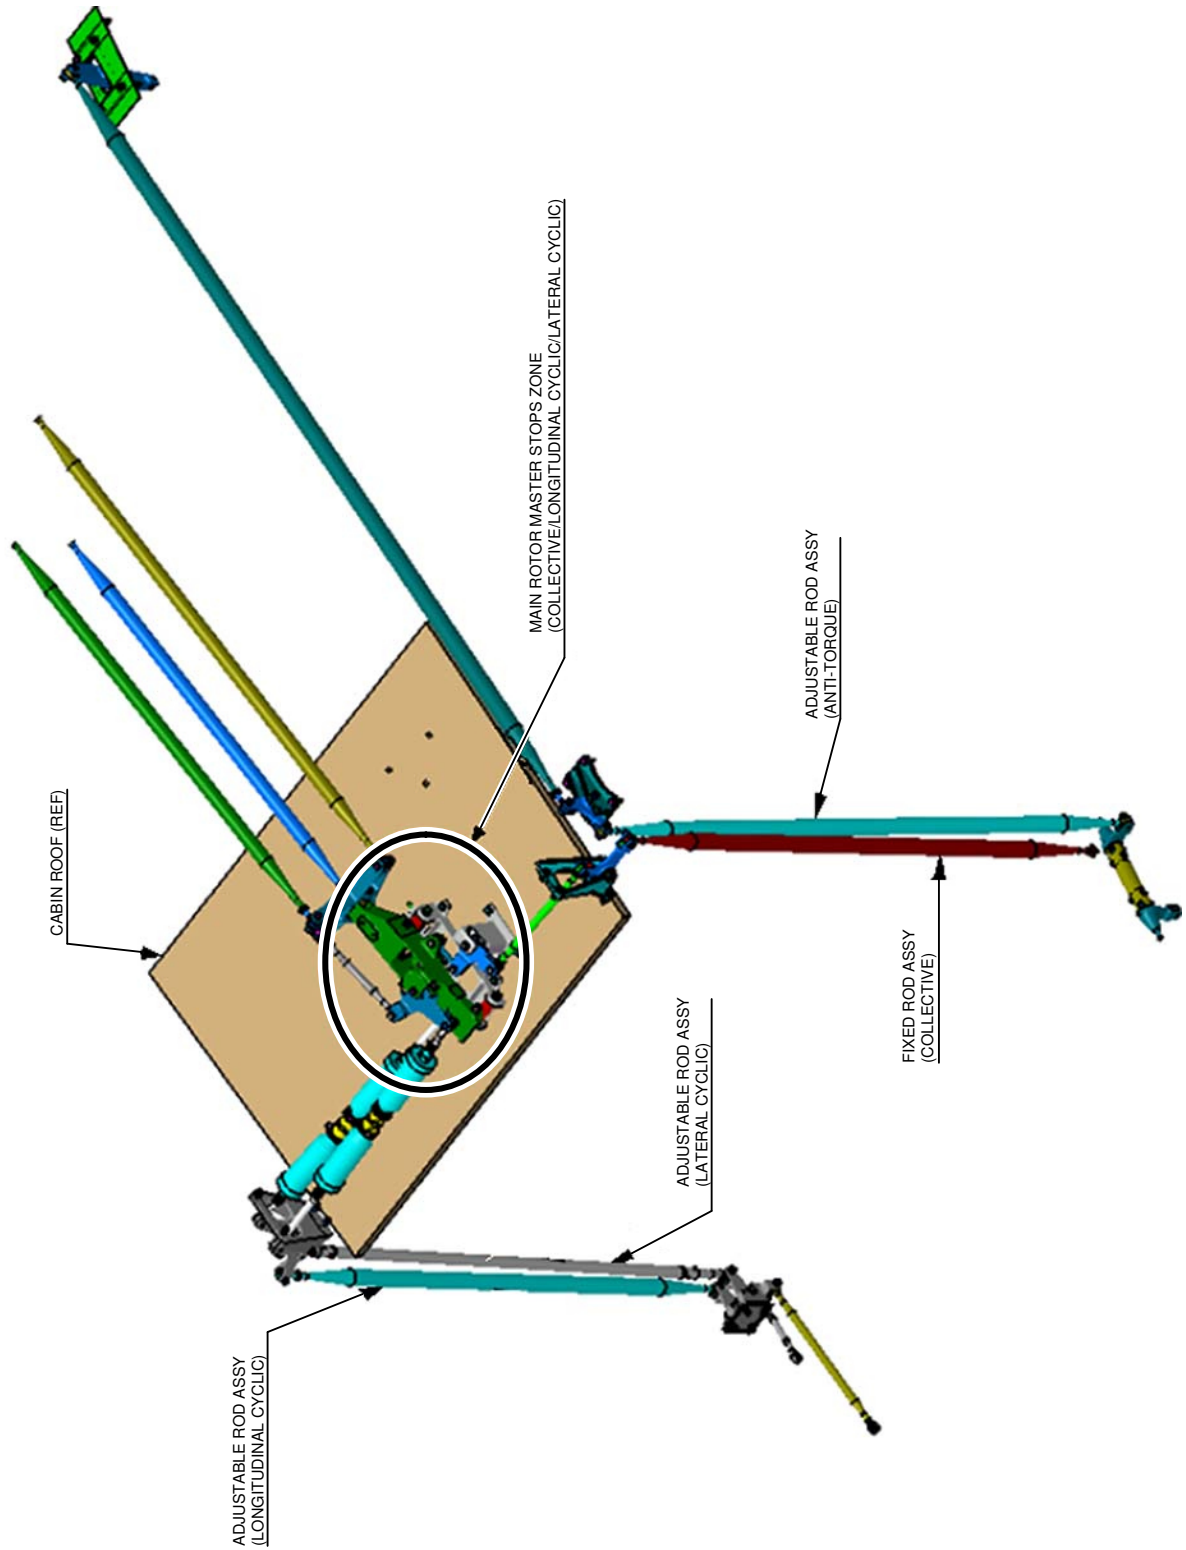

Figure 3
68. To check that the Fixed Flight Component have been properly re-installed, get access to the cyclic control stick on the left side of the cockpit, and with hydraulic power supply at 1500 PSI perform the following Step of MM Paragraph 67-00-26, (ref. Figures 3 thru 10):